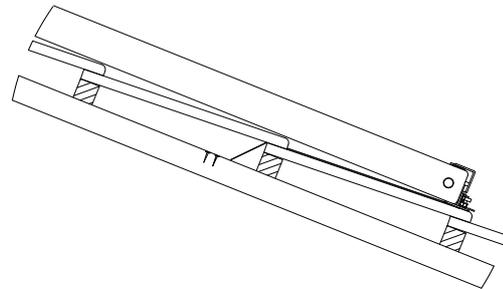

Figure 12 - Mount collector on Roof
- Push down on the collector retainers to clamp the collector and tighten the nuts as shown in **Figure 12**.